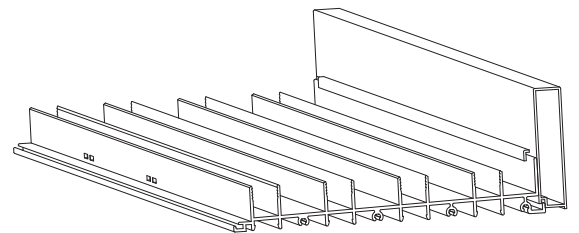

Figure 5
4. Set the track on an even flat, fully supported surface and then connect the sill riser to the sill. (See Figure 5)